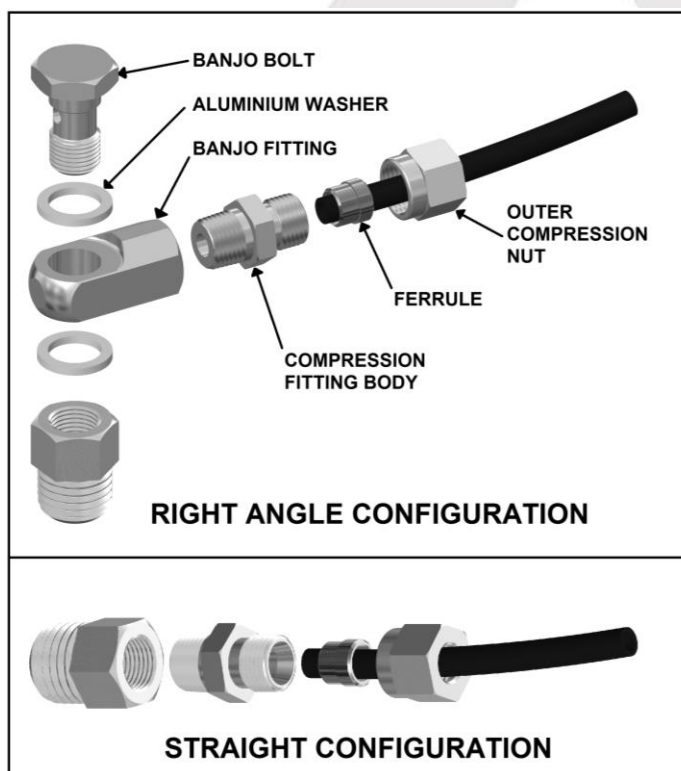

Figure 21.
- ☐ Assemble an aluminium washer onto the banjo bolt and insert through the banjo fitting. Assemble second aluminium washer and tighten into bulkhead fitting using a 14mm [9/16"] spanner. (Fig.21.)
- ☐ Insert the outer compression nut and ferrule over the air line. Ferrule should be orientated as per Fig.21.
NOTE : When right angle routing of the tube is not required, screw the compression fitting body straight into the bulkhead fitting body (Fig.21.).